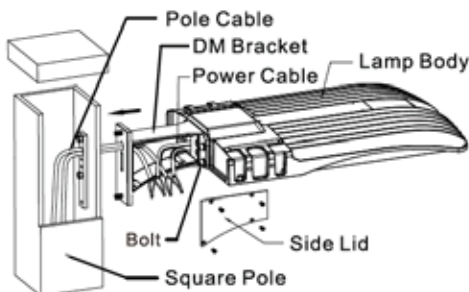

Figure 3-1
- Open the side lid of direct bracket, let the power cable go through the direct bracket. Fix the direct bracket to the end of lamp body with bolt. Let the pole cable go through the direct bracket. (Figure 3-1)